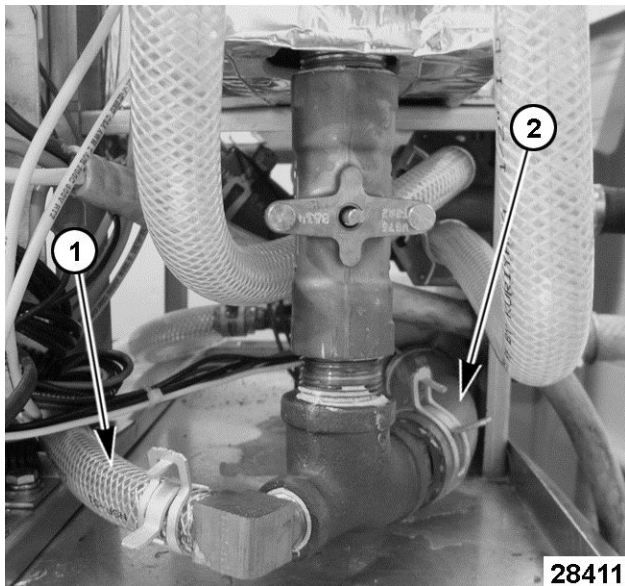

Fig. 66
5. Disconnect the drain flush hose [1] Fig. 66 and drain hose [2] Fig. 66 from the Tee fittings located below drain valve.